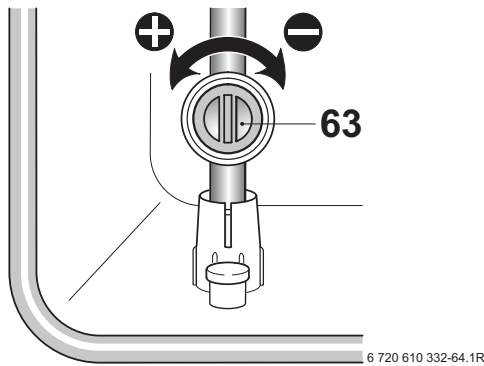

Fig. 43
- ▶ Adjust the gas flow restrictor (63) to obtain the CO₂ level given in Table 15. Refer to fig. 43